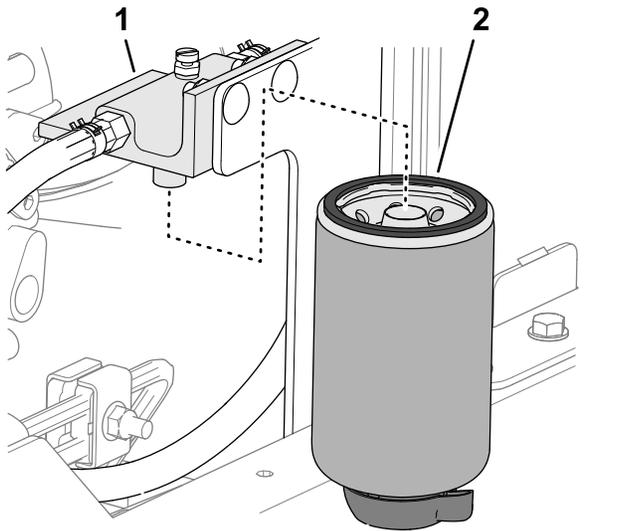

Figure 85
2. Clean the filter head and filter canister (Figure 85).